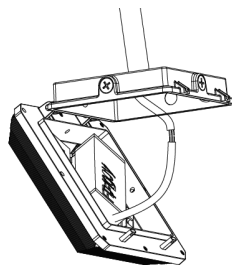

Figure 1-5
5. Connect the wires properly; If the fixture is equipped with sensor, adjust the sensor settings. Take relevant waterproof measures after the wires are connected. Figure 1-5